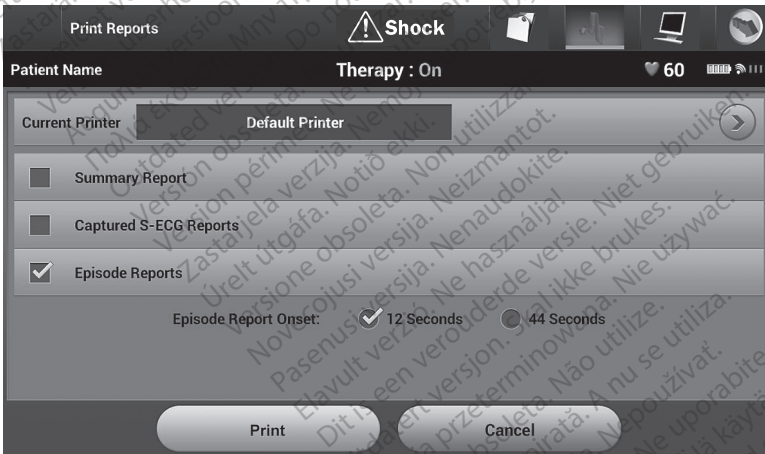

Figure 27. Print Reports screen
2. Select the Print Reports button to display the Print Reports screen (Figure 27 Print Reports screen on page 40).